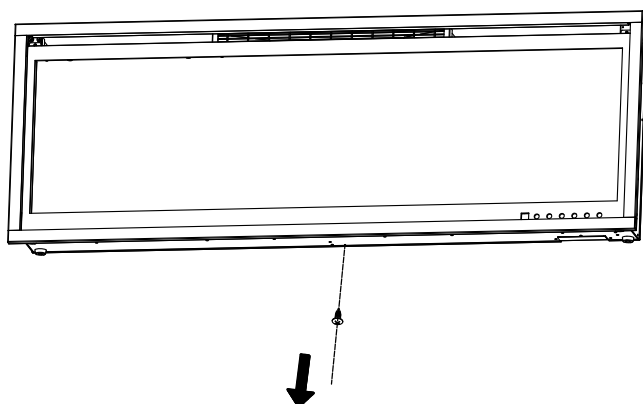

Fig 1-1
Step 1. Remove the silver screw at the bottom of the appliance. Set the screw aside. **Fig 1-1**